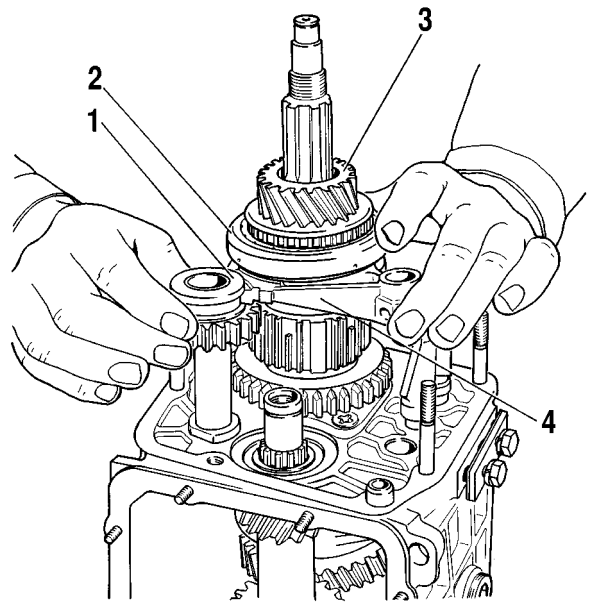

Fig. 3-23. Removing the reverse idler gear, 5th gear/syncho unit and fork assembly:
Simultaneously remove the reverse idler gear 1 (fig. 3-23) from the shaft, gear 3 in assembly with the coupling and fork 4 from the output shaft.
- the reverse idler gear 1 (see fig. 3-23), gear 3 and fork 4 are installed simultaneously;